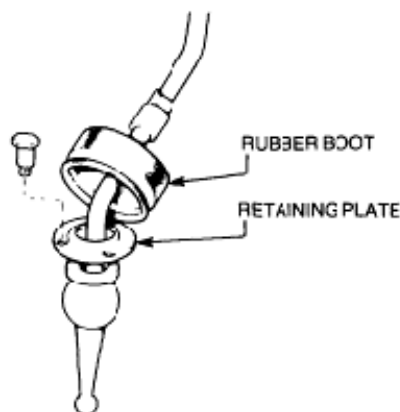

Figure 53 Gear Lever Removal
- Remove the three bolts securing the retaining plate to the top cover (Figure 53).